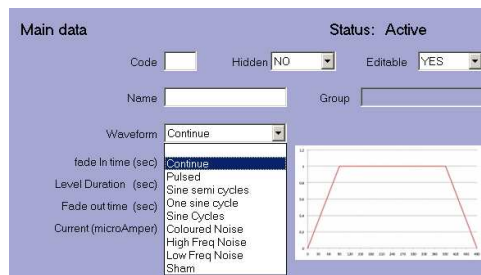

Figure 19 – Waveform
*Waveform* – click on the button to the right of the string (down arrow), to open a drop-down menu listing all the waveforms available for selection (fig. 19):